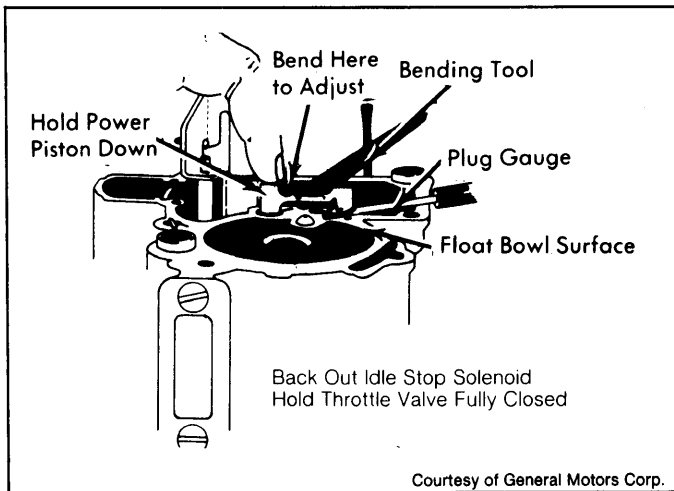

Fig. 3: Adjusting 1978-79 Metering Rod
- 1978 Exc. Chevette & All 1979** - 1) Remove air horn and gasket. Hold throttle valve wide open. Push down on metering rod against spring tension. See Fig. 3.